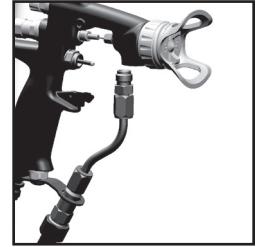

Fig. 26
12. Replace fluid tube and trigger. (See figs 26 & 25)